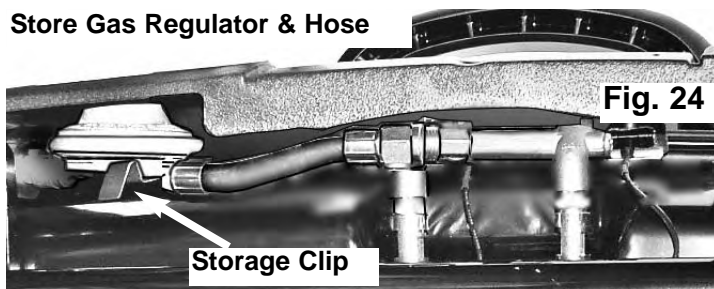

Fig. 24
- Swing the Gas Regulator up into its storage position behind the front panel of the Grill and clip it into place. (FIG. 24)